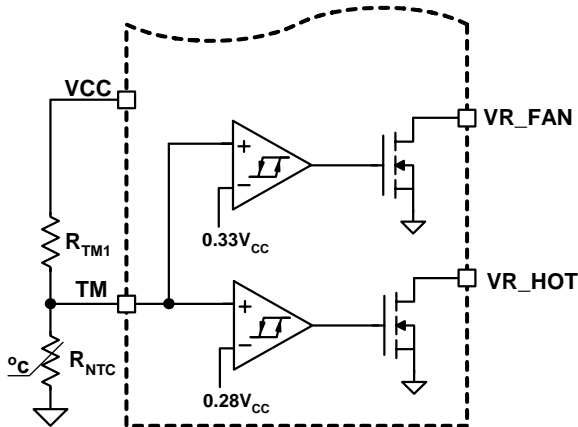
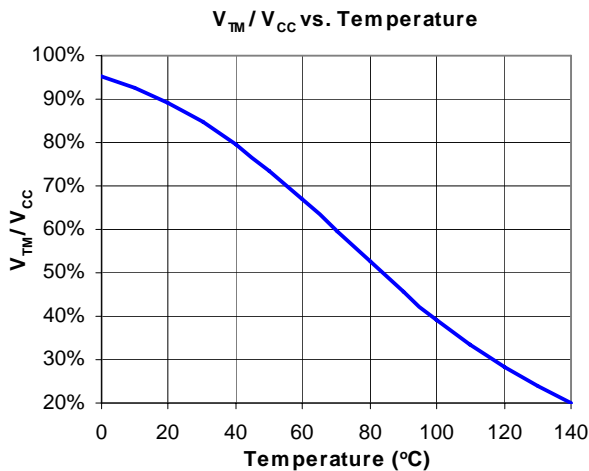

FIGURE 11. BLOCK DIAGRAM OF THERMAL MONITORING FUNCTION
FIGURE 12. THE RATIO OF TM VOLTAGE TO NTC TEMPERATURE WITH RECOMMENDED PARTS
The diagram of thermal monitoring function block is shown in Figure 11. One NTC resistor should be placed close to the power stage of the voltage regulator to sense the operational temperature, and one pull-up resistor is needed to form the voltage divider for the TM pin. As the temperature of the power stage increases, the resistance of the NTC will reduce, resulting in the reduced voltage at the TM pin. Figure 12 shows the TM voltage over the temperature for a typical design with a recommended 6.8kΩ NTC (P/N: NTHS0805N02N6801 from Vishay) and 1kΩ resistor RTM1. We recommend using those resistors for the accurate temperature compensation.
Based on VCC voltage, ISL6326 converts the TM pin voltage to a 6-bit TM digital signal for temperature compensation. With the non-linear A/D converter of ISL6326, the TM digital signal is linearly proportional to the NTC temperature. For accurate temperature compensation, the ratio of the TM voltage to the NTC temperature of the practical design should be similar to that in Figure 12.
1. Properly choose the voltage divider for the TM pin to match the TM voltage vs temperature curve with the recommended curve in Figure 12.